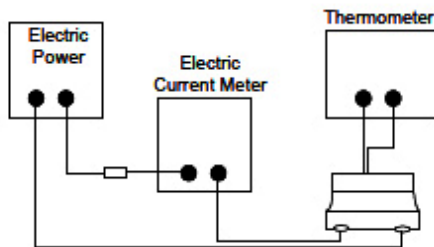

Fig.5.3.3-1
d. Definition of Rated Current (I_r): I_r is direct electric current as chip surface temperature rose just 20°C against chip initial surface temperature (T_a) (see Fig. 5.3.3-2).